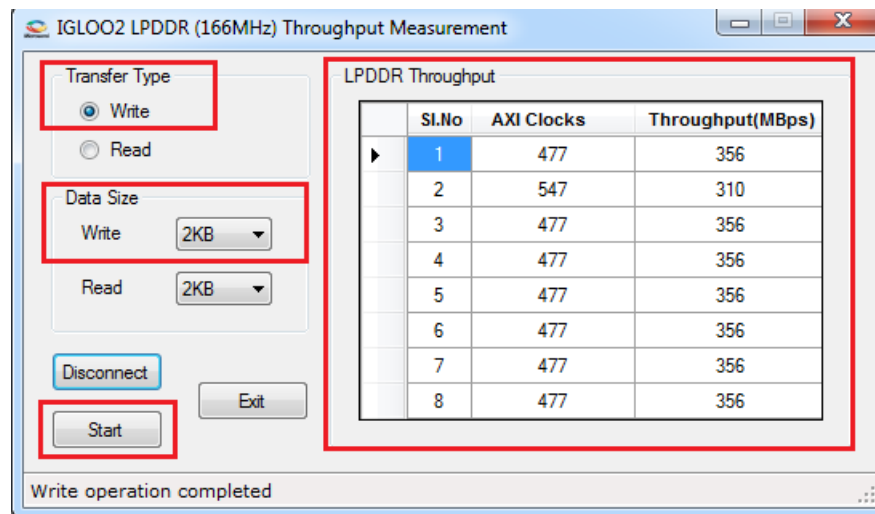

Figure 36 • Write Throughput Measurement
4. Select Write data size or Read data size from the drop-down box and click **Start**. Figure 36 shows the write throughput measurement for 2 KB data transfer.